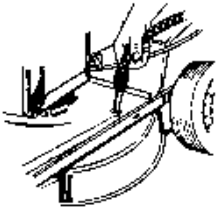

Figure 8 - Washport Cleaning
3.7 Washport Cleaning - Where fitted (Refer Fig. 8)